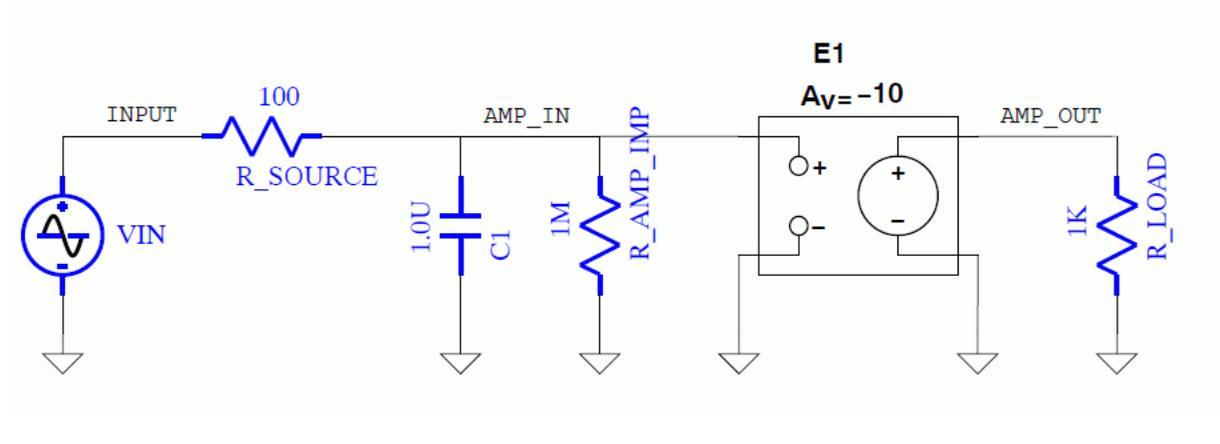

Figure 24.1: Example Circuit 1
circuit device, and the definition of the significant parameters for each device. For example, the circuit description below shows the equivalent input file for the circuit shown in Figure 24.1.
**Subcircuits** In some applications, describing a device by embedding the required elements in the main circuit file, as is done for the amplifier in Figure 24.1, is not desirable. A hierarchical approach may be taken by using subcircuits. An example of a subcircuit statement is shown in the second circuit file: